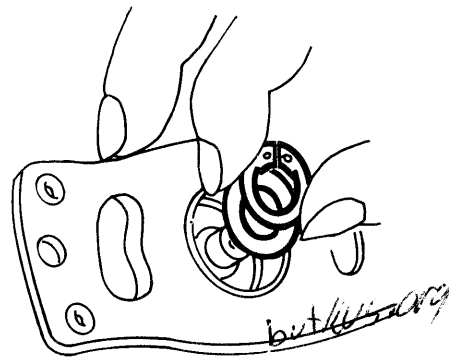

Fig. 2
- Fit the small retaining ring on top of the shim (fig.2).